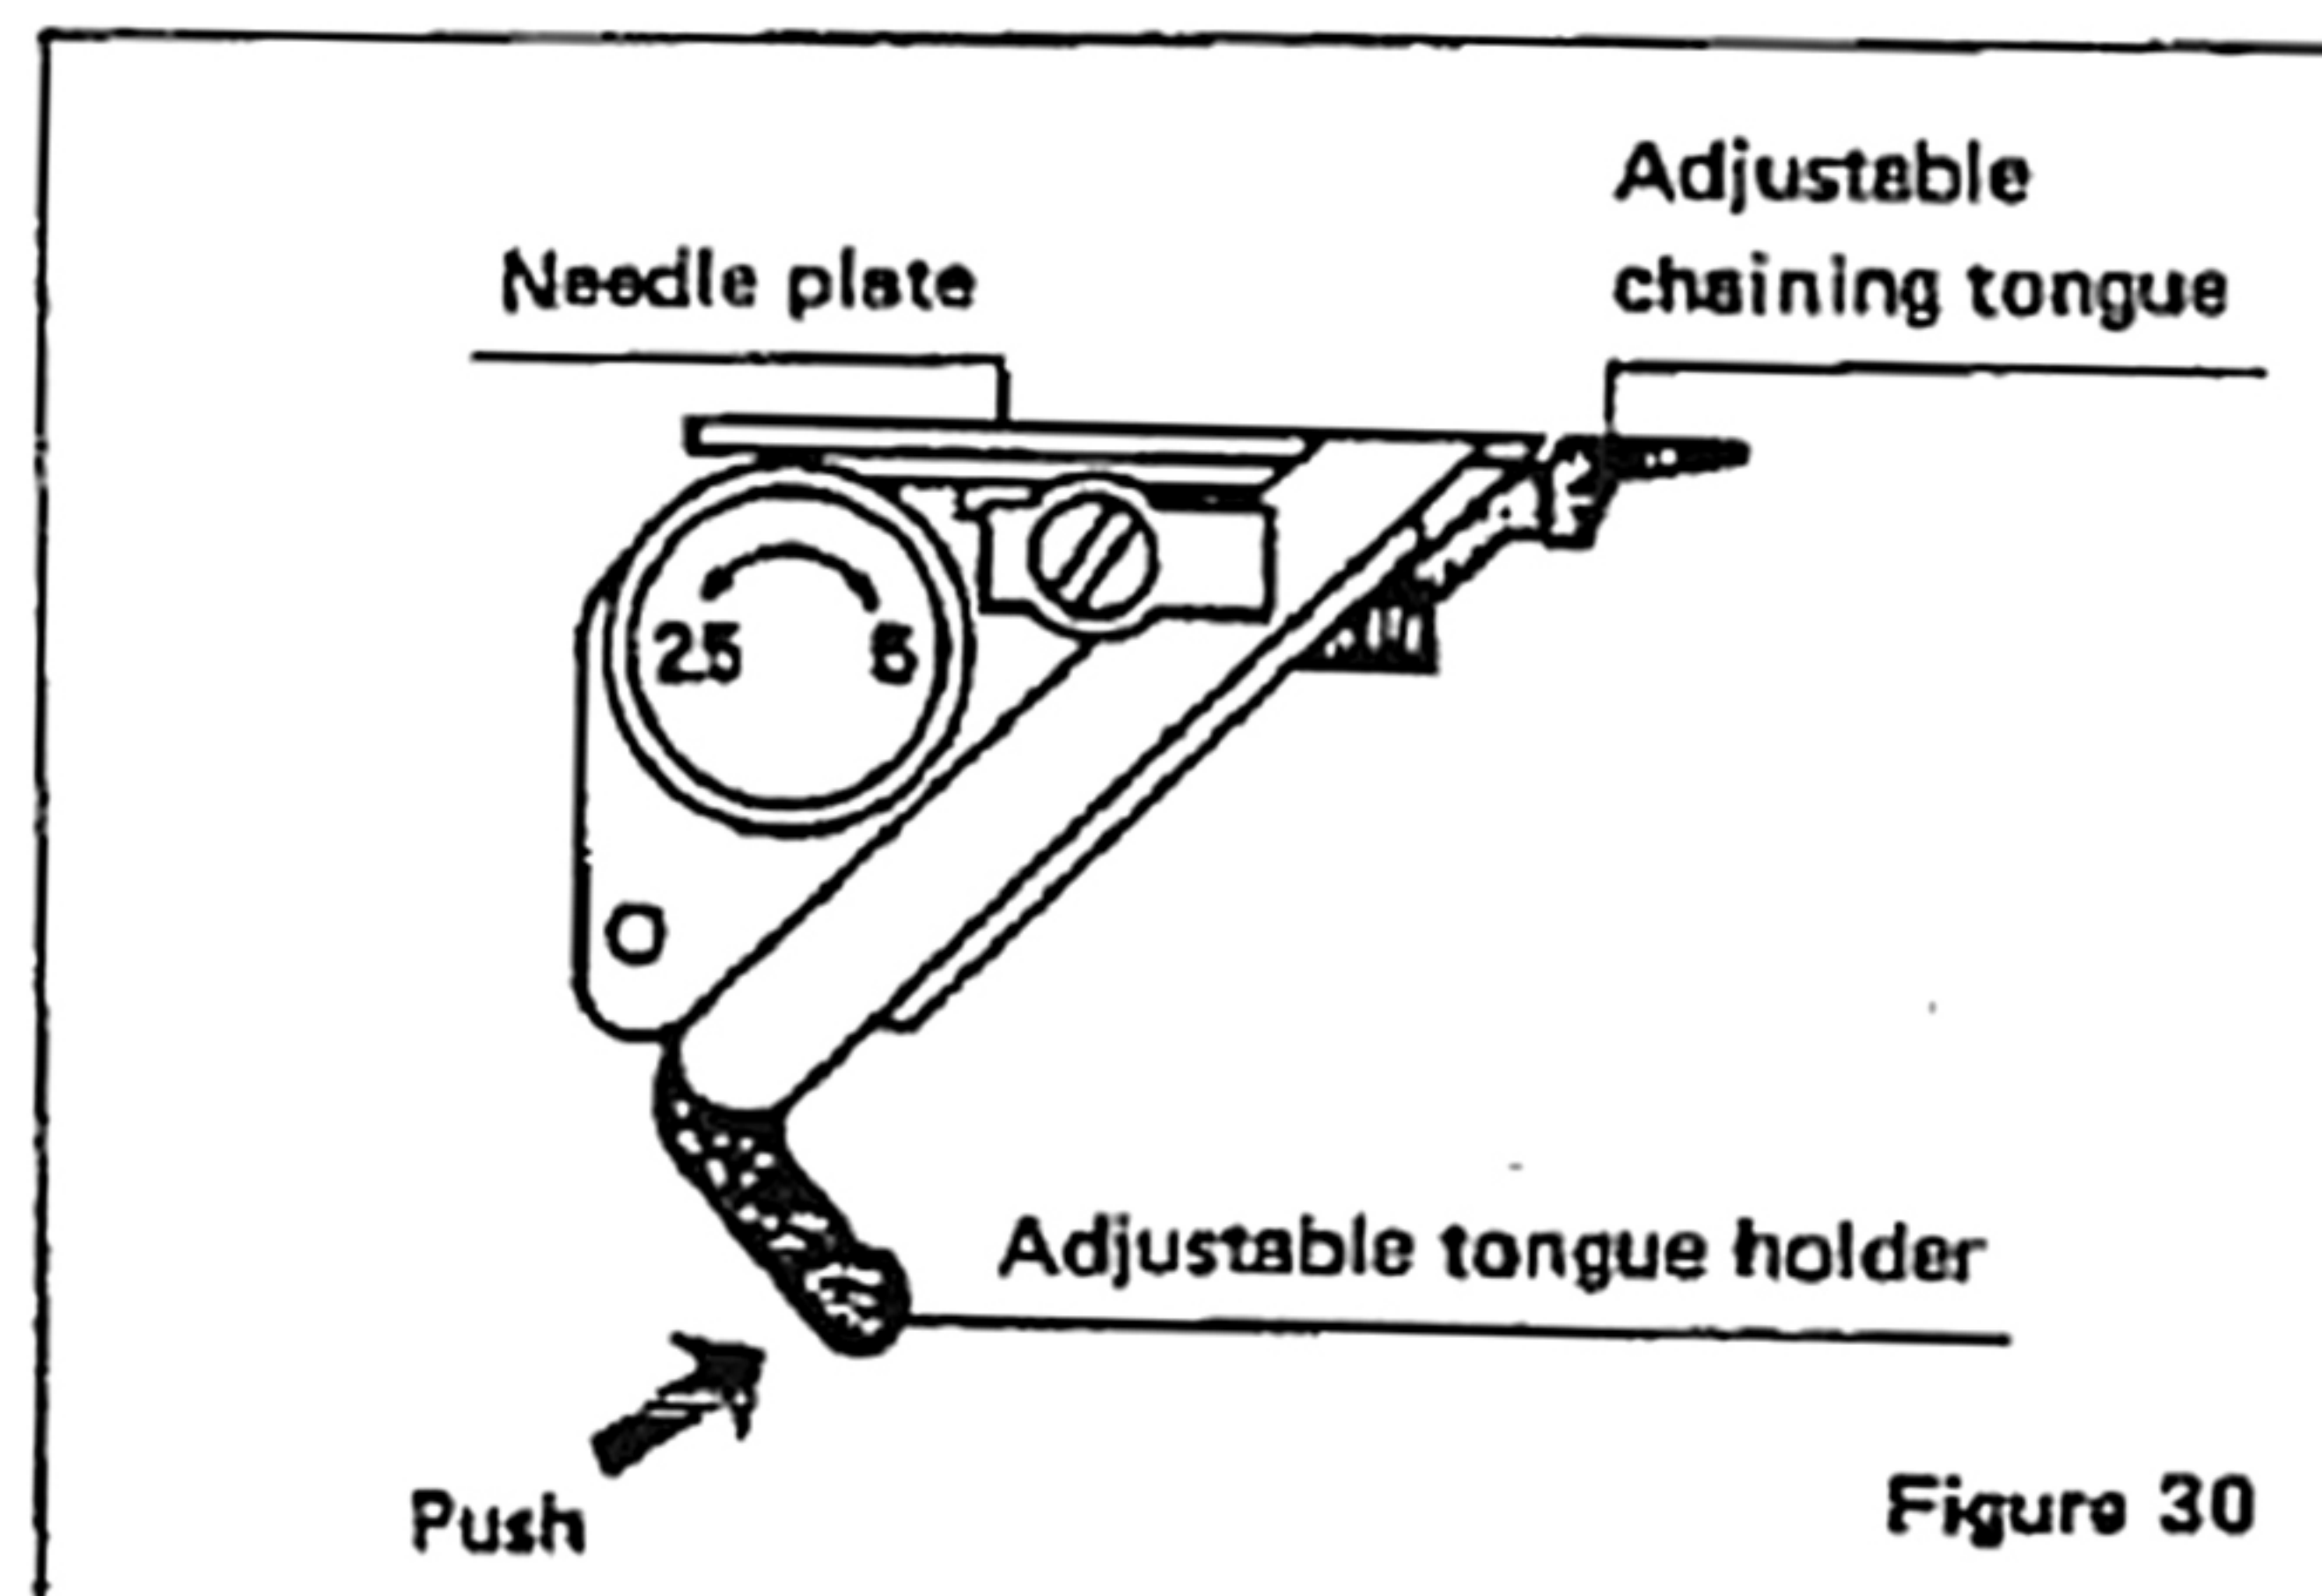

Figure 30
8. Push up on the adjustable tongue holder until it snaps into position and adjustable chaining tongue is level with the needle plate (Figure 30).